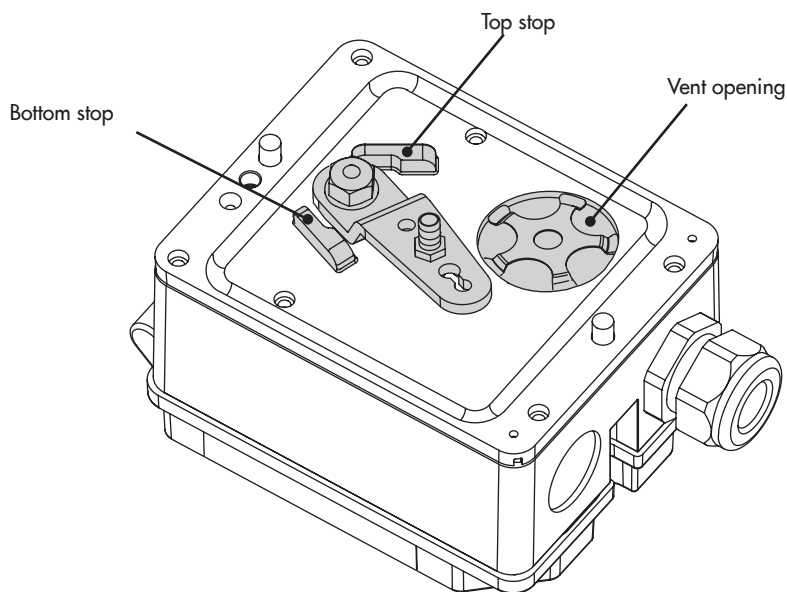

Fig. 4: *Mechanical stops and vent opening*
→ **Do not mount the positioner with the vent opening (Fig. 4) facing upward.**
1. Move the lever to the bottom mechanical stop (see Fig. 4) and hold it in place. Undo and remove the nut using a wrench (width across flats SW 10).